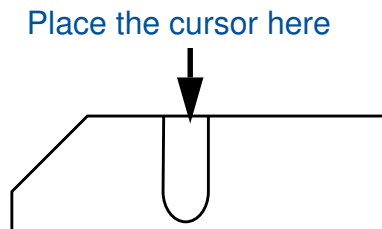

Figure 2-36. Specifying the Dividing Point
10. Choose the [Shapes] **Divide > Divide Point** menu item. When the select area prompt bar displays, place the cursor on the upper horizontal line of the rectangle, and click the Select mouse button (one item is selected). When the divide point prompt bar displays, and you are prompted for a point, place the cursor on the horizontal line you just selected between the two sides of the slot, and click the Select mouse button. Refer to Figure 2-36.